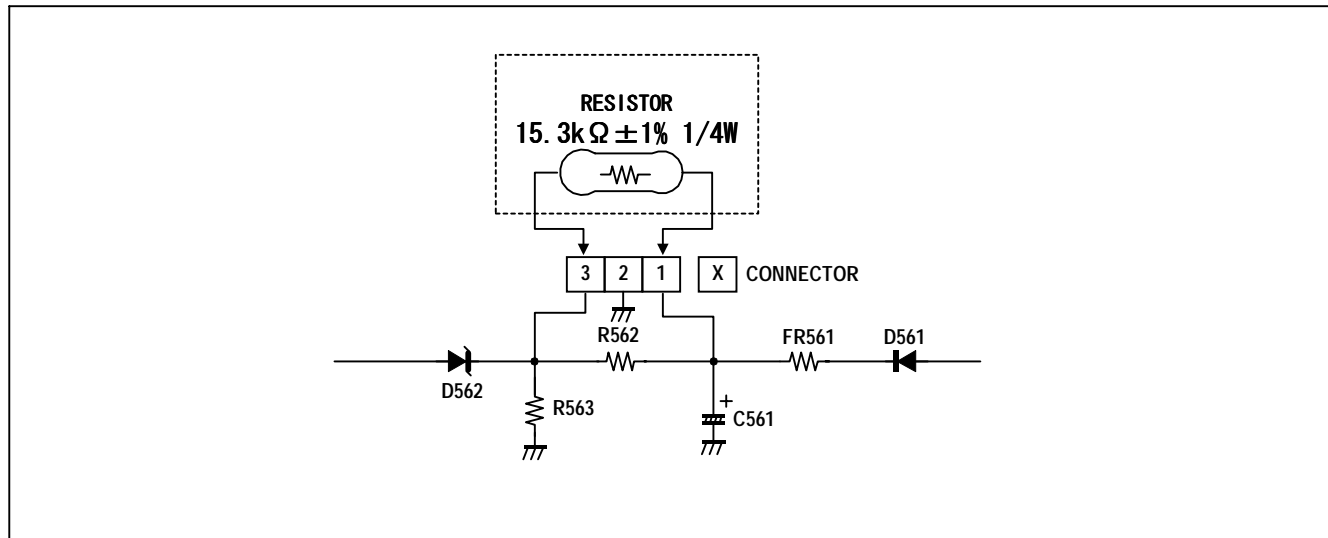

Fig. 2
- (1) Turn the POWER SW ON.
- (2) As shown in Fig.2, set the resistor (between X connector 1 & 3).
- (3) Make sure that the screen picture disappears.
- (4) Temporarily unplug the power cord.
- (5) Remove the resistor (between X connector 1 & 3).
- (6) Again plug the power cord, make sure that the normal picture is displayed on the screen.